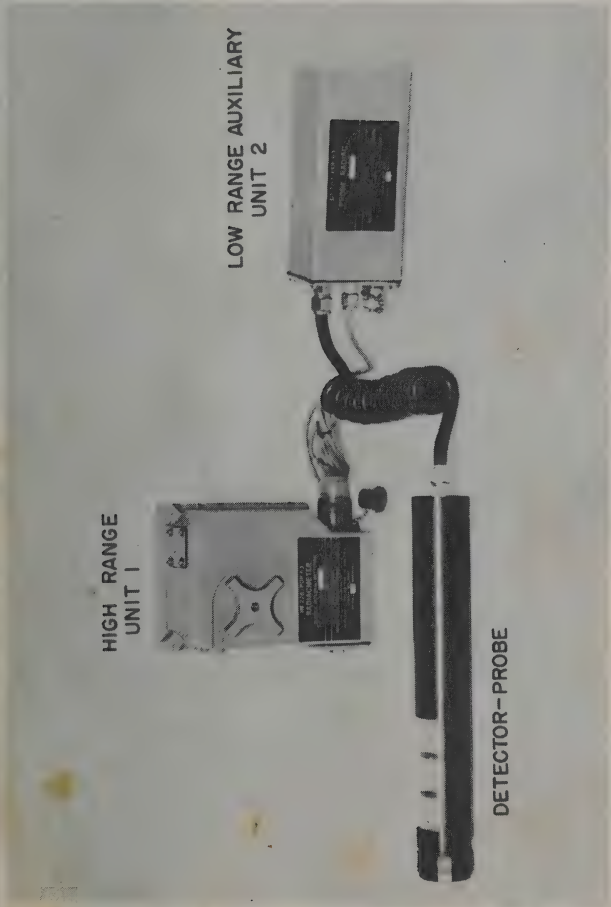

Figure 3-2. Low Range Auxiliary, DT-507/PDR-63
c. If beta detection is desired when using the low range module, Figure 3-2, open the end window cover exposing the mica window of the GM tube. For greater beta sensitivity, rotate the side window shutter to the open position.